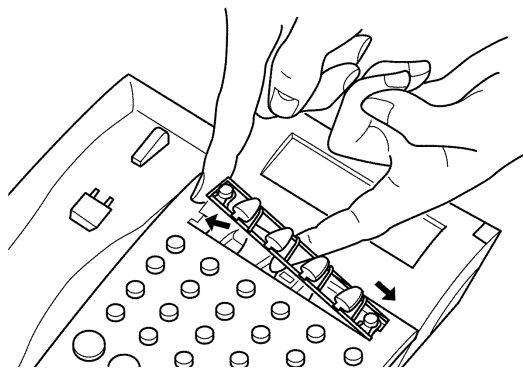

Figure 6-11: Removing Softkeys
1. Remove the softkeys by pulling the softkey plate upward as shown in *Figure 6-11: Removing Softkeys*.